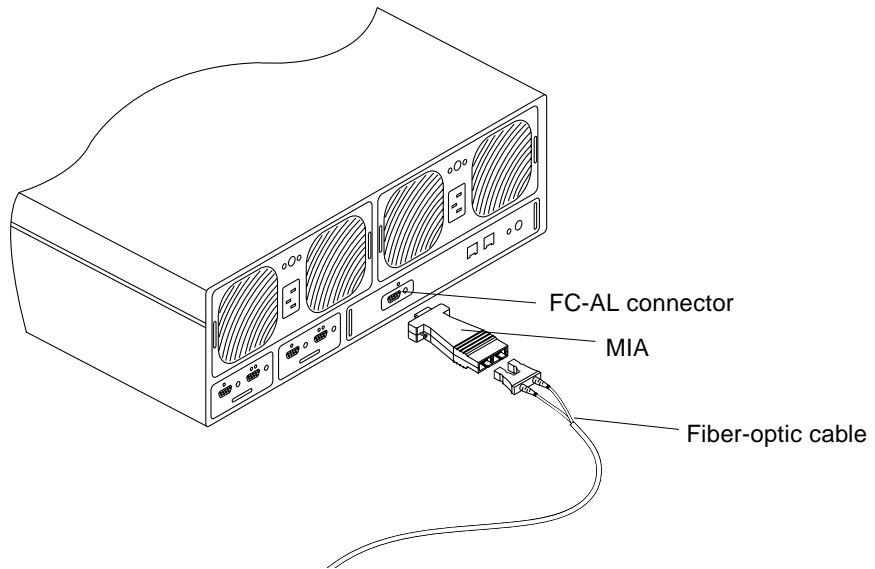

FIGURE 2-11 Connecting the Fiber-Optic Cable and MIA to the FC-AL Connector
- 2. Attach an MIA to the other end of the fiber-optic cable (FIGURE 2-11).**